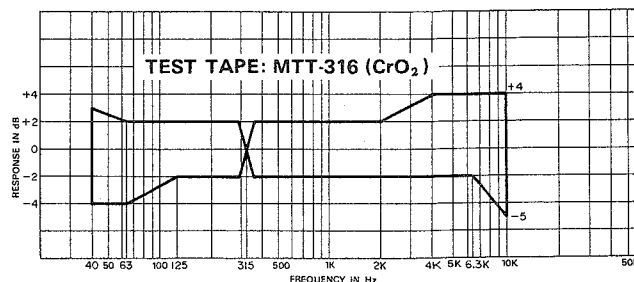

Fig. 6-6 Playback Frequency Response Limits
8. Play the 315 Hz section of the test tape to get a reference level on the AC Voltmeter. Then play the required test signals for comparison with the playback Frequency Response Limits chart. (Fig. 6-6)